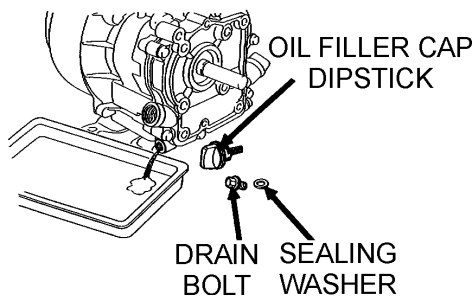

Figure 43. Draining Engine Oil
1. Drain the engine oil when the oil is warm as shown in Figure 43.